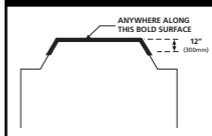

FIGURE 4
- Install Smoke Alarms on tray-shaped ceilings (coffered ceilings) on the highest portion of the ceiling or on the sloped portion of the ceiling within 12" (305mm) vertically down from the highest point (see FIGURE 4).